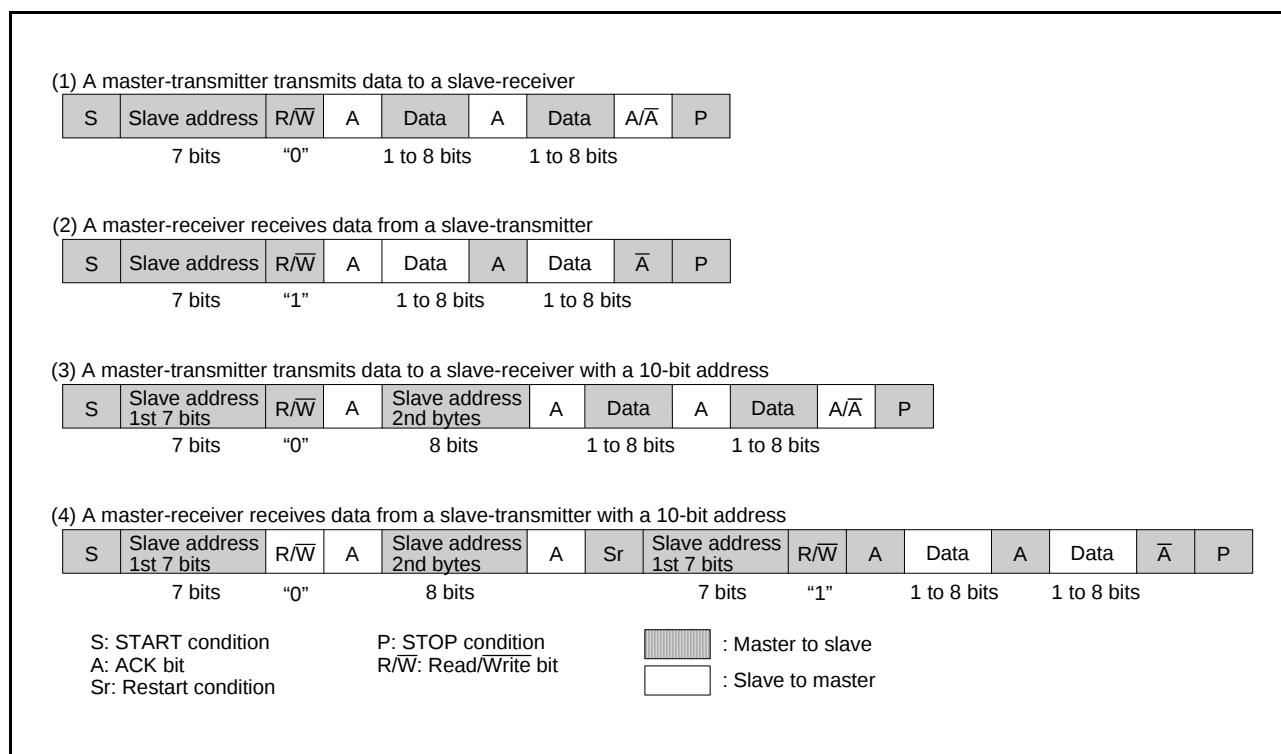

Fig. 73 Address data communication format
To adapt the 7-bit addressing format, set the 10BIT SAD bit of the I²C control register (S1D: address 0014₁₆) to “0”. The first 7-bit address data transmitted from the master is compared with the high-order 7-bit slave address stored in the I²C slave address register. At the time of this comparison, address comparison of the RWB bit of the I²C slave address register is not performed. For the data transmission format when the 7-bit addressing format is selected, refer to Figure 73, (1) and (2).
When the first-byte address data agree with the slave address, the AAS bit of the I²C status register (S1: address 0013₁₆) is set to “1”. After the second-byte address data is stored into the I²C data shift register (S0: address 0011₁₆), perform an address comparison between the second-byte data and the slave address by software. When the address data of the 2 bytes agree with the slave address, set the RWB bit of the I²C slave address register to “1” by software. This processing can make the 7-bit slave address and R/W data agree, which are received after a RESTART condition is detected, with the value of the I²C slave address register. For the data transmission format when the 10-bit addressing format is selected, refer to Figure 73, (3) and (4).